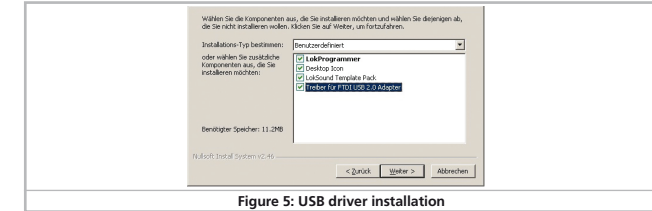

Figure 5: USB driver installation
- If you use Windows 2000 or Windows XP, the installation program will offer the installation of the driver. In this case, you should set the checkmark with "USB driver" and „FTDI USB adapter" in figure 5. Please do only install the driver on the first occasion. If you have an older LokProgrammer version installed, a repeated driver installation will normally not be necessary.